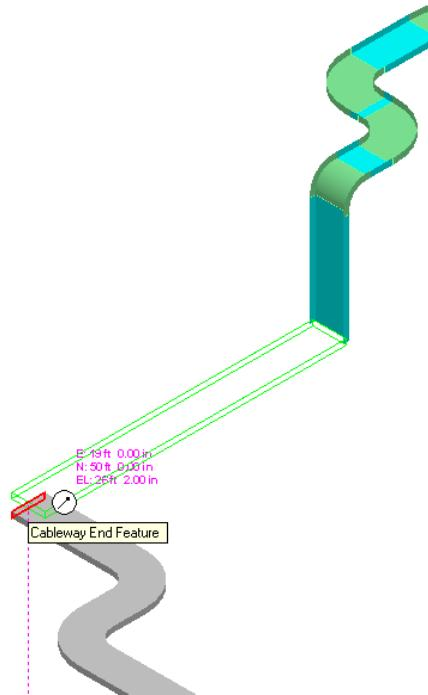

Figure 45: Connecting the Two Cableways
36. Click in the graphic view to define the next data point. Again, move the cursor to the other end feature of the cableway with non-zero spec and click to join the two cableways, as shown in Figure 45.